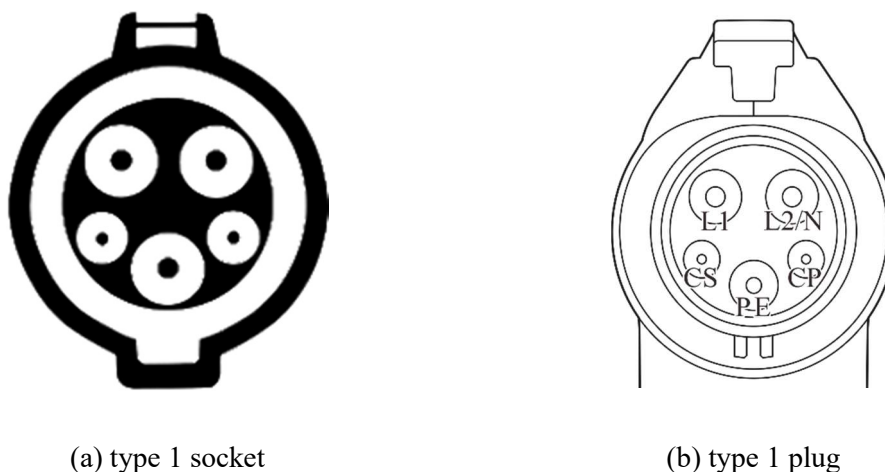

Fig. 3-2 Schematic diagram of Type 1 charging socket and plug
- The charging connector of M3P U-series products meet **IEC 62196-2**, type 1 (Schematic diagram shown as Fig. 3-2).